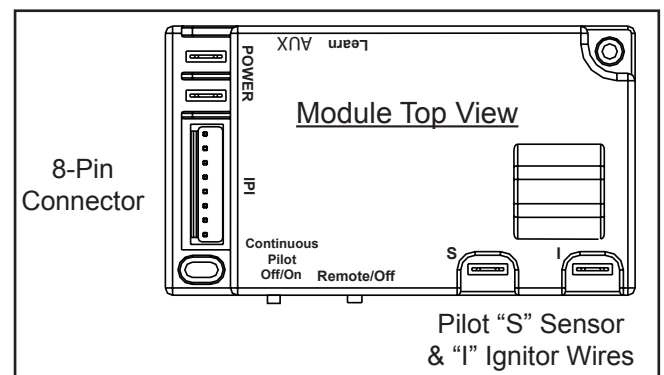

Fig. 7 Module Identification
1. The "S" (Sensor) and "I" (Ignitor) wires from the pilot assembly are connected at the factory to the "S" & "I" terminals on the electronic module. **NOTE:** The terminal locations in Fig. 7.